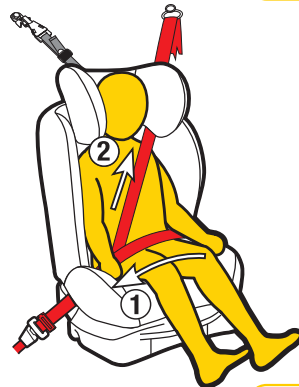

Figure 3
Step 3: Position the lap section of the vehicle seatbelt across the child’s lap then insert the buckle tongue in to the belt buckle until you hear “CLICK”. Ensuring the lap portion is positioned through the booster seatbelt path and over the child’s thighs (refer Figure 3).
Step 4: Pull the lap belt tight by first pulling on the lap belt in the direction of arrow 1 (refer Figure 3). Pull the sash belt tight in the direction of arrow 2.